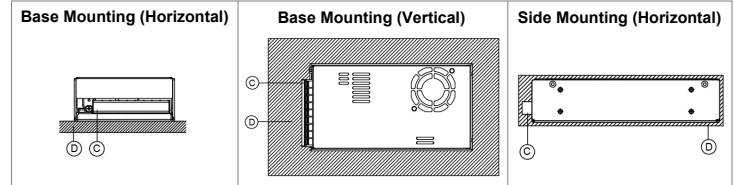
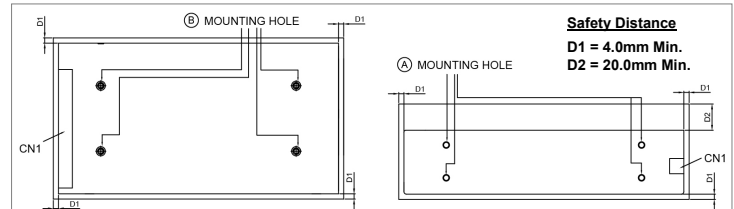
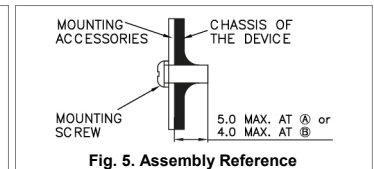

Fig. 2: Mounting Orientation
Fig. 3: Mounting Hole Locations and the Safety Distance
Fig. 5: Assembly Reference
- For safety reasons, please ensure the mounted device is kept at $\geq 4\text{mm}$ safety distance at all sides from other components and equipments. In addition, to ensure sufficient convection cooling, always maintain a distance of $\geq 20\text{mm}$ from ventilated surfaces while the device is in operation (Refer to Fig. 3).
- ① Input & Output terminal block connector
- ② DC voltage adjustment potentiometer
- ③ DC OK control LED (Green)
- ④ Remote ON/OFF function connector (Option)
- (A) Side Mounting: Fig. 2 and Fig. 3 show the mounting hole locations for power supply assembly onto a metal mounting surface. The power supply shall be mounted on minimum of 4 mounting holes using M4 screw of maximum 5mm length (Refer to Fig. 5). This is to maintain a safety distance between the screw and internal components.
- (B) Base Mounting: Fig. 2 and Fig. 3 show the mounting hole locations for power supply assembly onto a metal mounting surface. The power supply shall be mounted on minimum of 4 mounting holes using M4 screw of maximum 4mm length (Refer to Fig. 5). This is to maintain a safety distance between the screw and internal components.
- (C) Fig. 2: Connector
- (D) Fig. 2: This surface belongs to customer's end system or panel where the device is mounted.